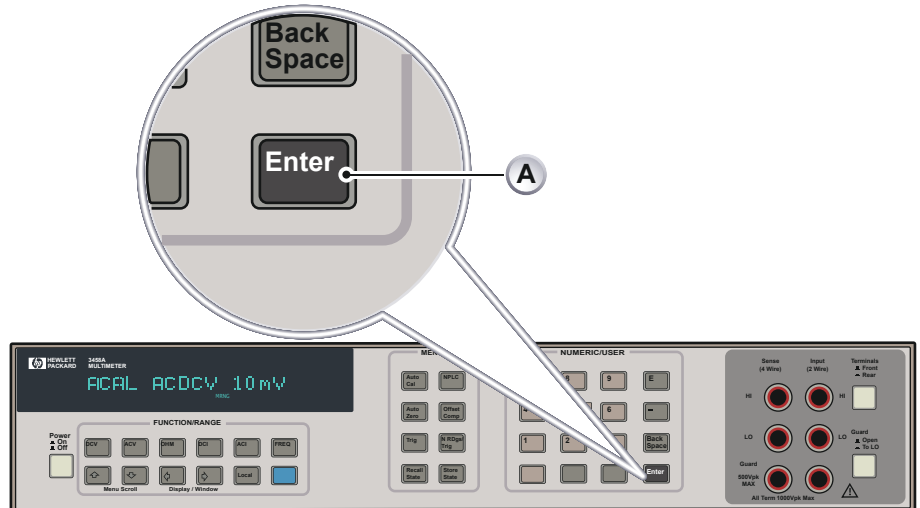

Figure E.22: HP3458A Multimeter Zero calibration (Part 3)
- 4 Select the **Enter** button (see Figure E.22). The automatic calibration starts with the status info displayed.